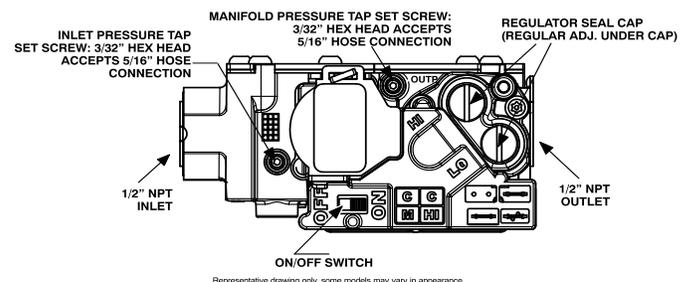

Fig. 63 – Gas Valve with Tower Pressure Ports
1. Adjust manifold pressure to obtain low fire input rate. See Fig. 63.
- h. Remove regulator adjustment cap from low heat gas valve pressure regulator and turn low-heat adjusting screw (3/16 or smaller flat-tipped screwdriver) counterclockwise (out) to decrease input rate or clockwise (in) to increase input rate. See Fig. 63.
2. Adjust manifold pressure to obtain high fire input rate See Fig. 63.
- b. Remove regulator adjustment cap from high-heat gas valve pressure regulator and turn high heat adjusting screw (3/16-in. or smaller flat-tipped screwdriver) counterclockwise (out) to decrease input rate or clockwise (in) to increase input rate. See Fig. 63.